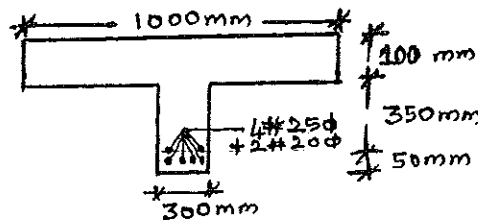

Fig.Q.3(b)
b. Determine the ultimate moment of resistance of flanged beam as shown in Fig.Q.3(b). Adopt  $M_{20}$  grade concrete and Fe415 grade steel. (10 Marks)